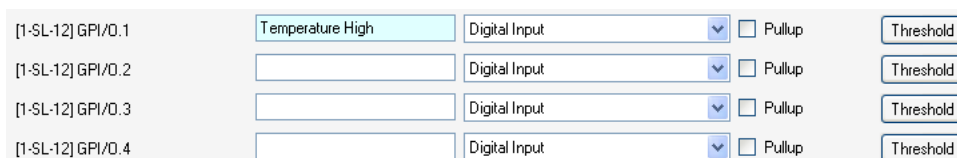

Figure 86: Selecting Digital Input for a Temperature Sensor
3. In the desired GPIO port, set the functionality of the port and name the port in the description box (for example, Temperature High for Digital Input, see Figure 86).